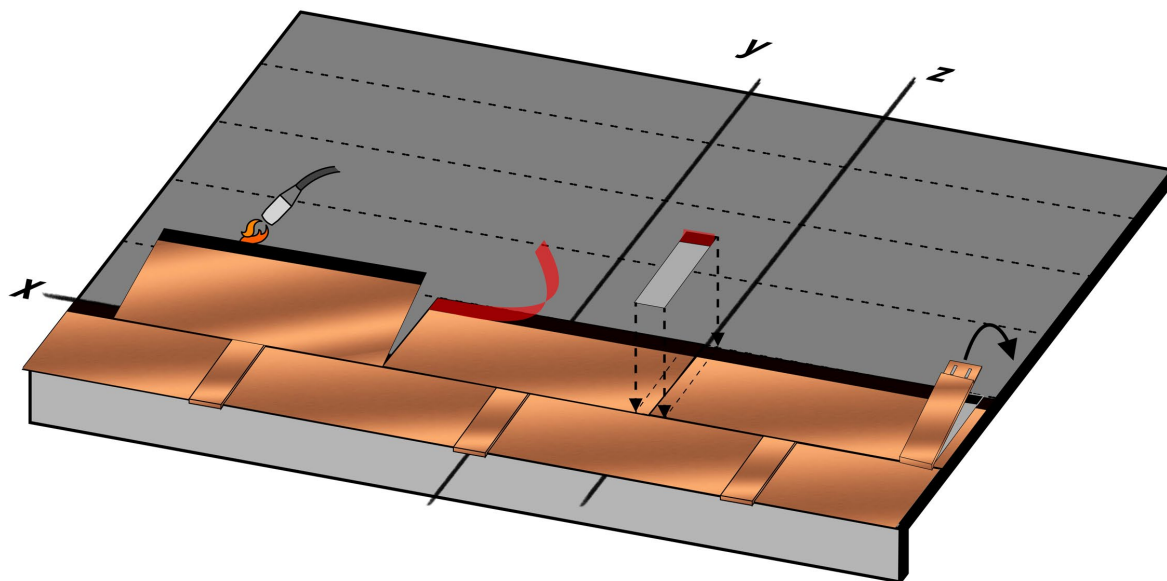

Fig. 22 - Second row shingles installation by torch
- Proceed with the installation of the first row of shingles: align the lateral edge of the first shingle on the vertical **z** and the upper edge on the horizontal 29 cm from **x** - see Fig. 22. Fix the shingle to the membrane using the torch and lifting the top of the shingle with a tool, Fig. 22. The self-adhesive upper strip of the first row shingles will fix the shingles of the upper row. Move forward installing all the shingles of the row.